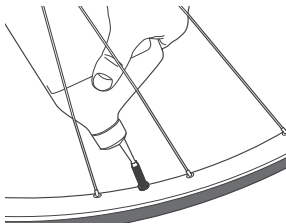

Figure 6. Pour sealant through the valve
5. Pour the sealant through the valve (Figure 6). See the sealant container for the recommended amount.